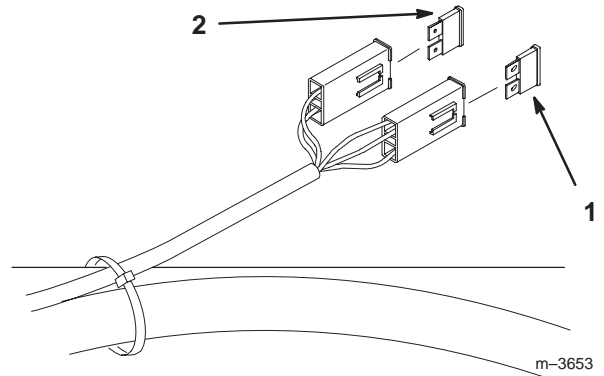

Figure 64
1. Raise the seat to gain access to fuse holder (Fig. 64).
2. To replace fuses pull out on the fuse to remove it (Fig. 64).